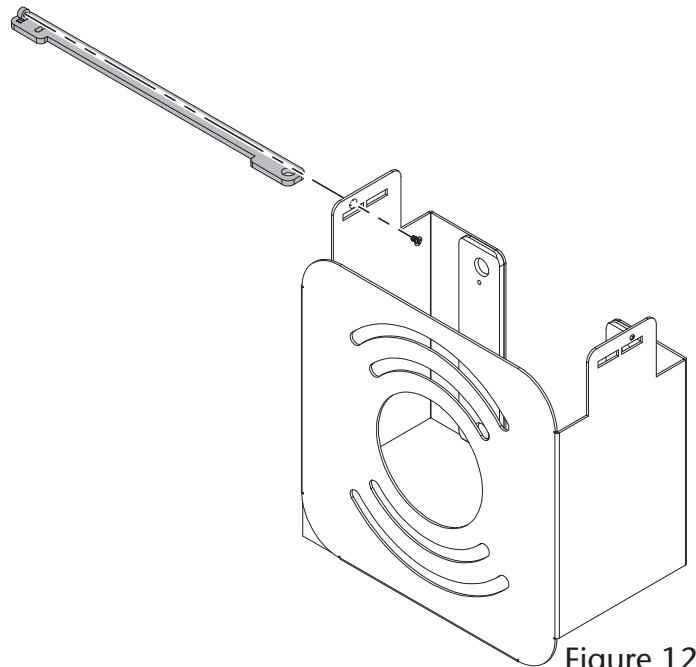

Figure 12
8. Using a #1 Phillips screwdriver, remove the screw securing the locking bar to the bracket, remove the bar, and then set aside the screw, bar, and screwdriver (**Figure 12**).